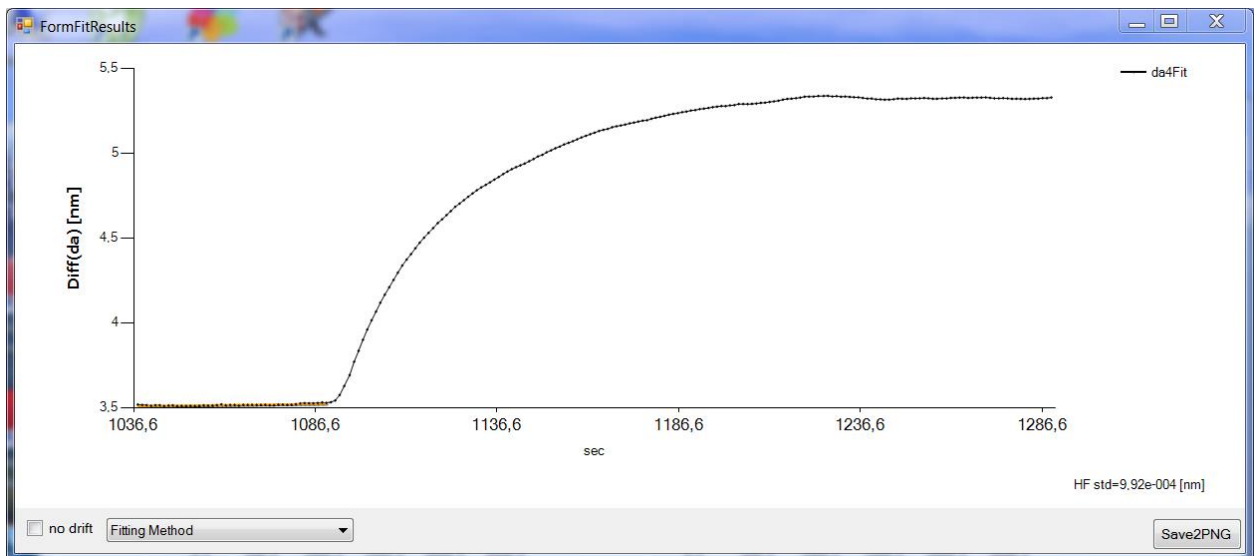
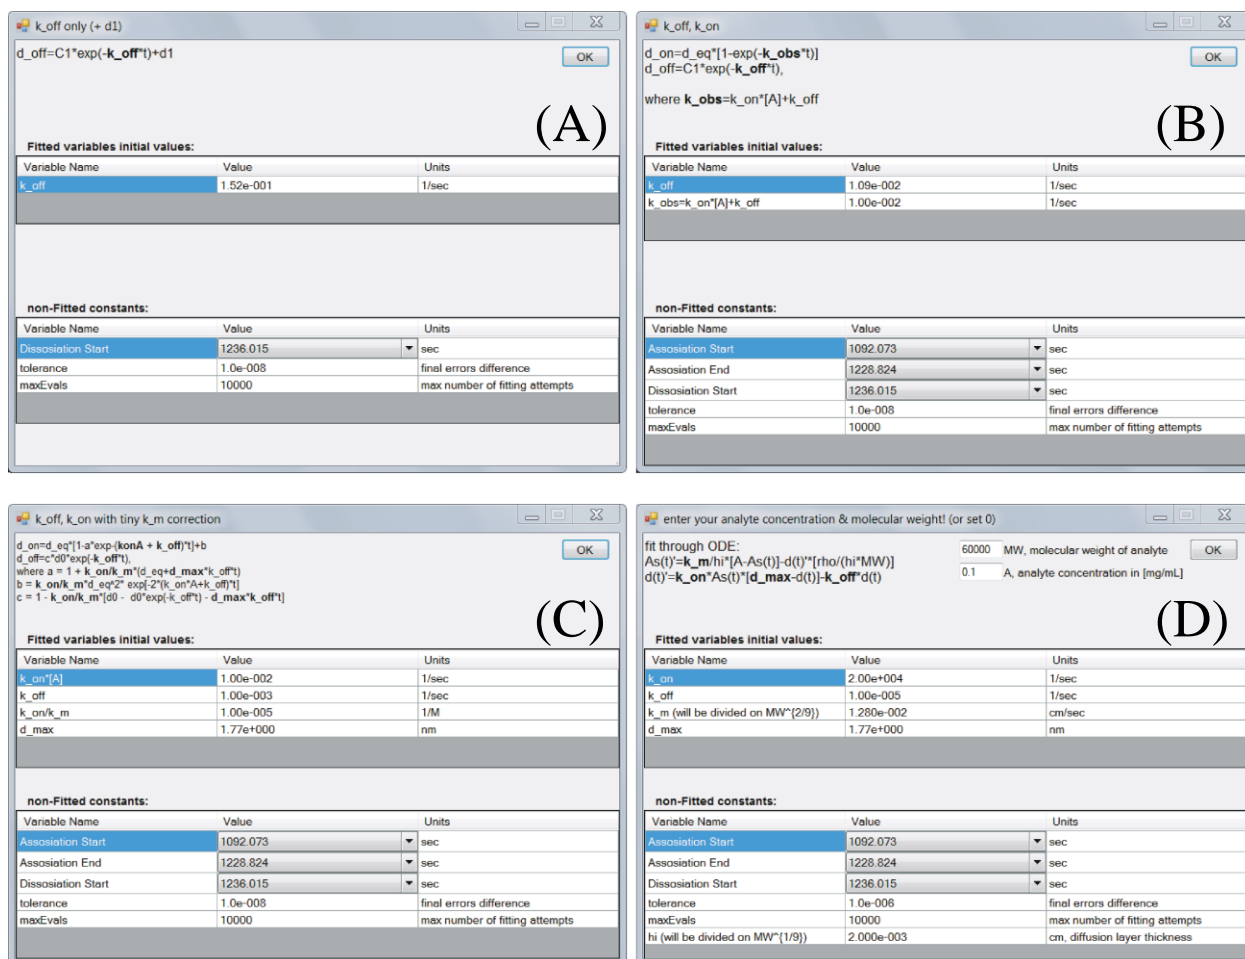
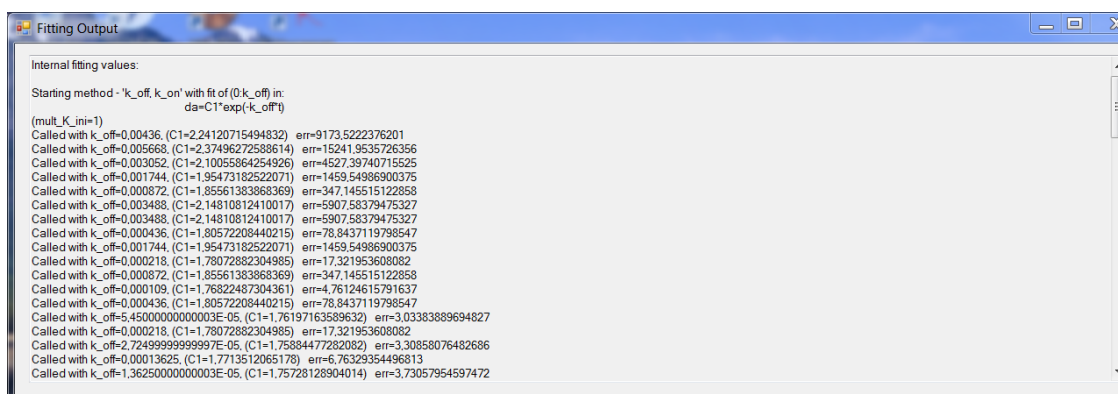
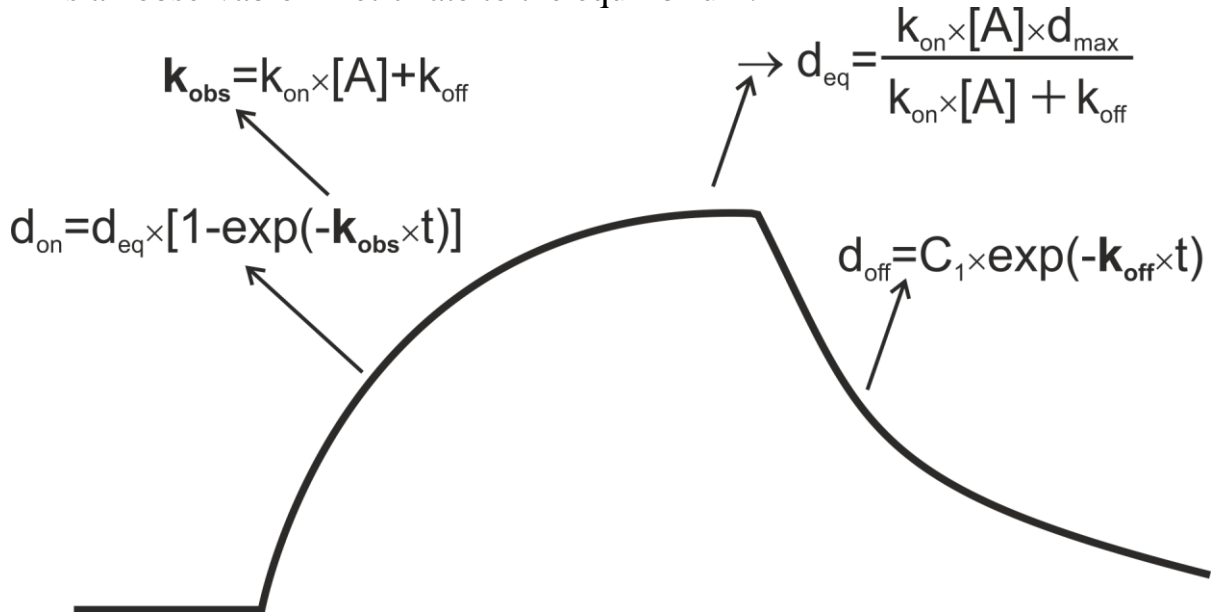

Figure 15. Form for fitting selected part of data.
Figure 16. Methods for data fitting.
Figure 17. Auxiliary window illustrating fitting process.
Figure 18. A schematic kinetic curve showing association and dissociation phases.
The selected portion of data points will be opened in a separate window, ‘FormFitResults’ (see **Figure 15**), where a fitting method may be chosen. There are several fitting methods in the program. All of these are illustrated in **Figure 16**. The internal details of the fitting process may be found in the ‘FittingOutput’ window, presented in **Figure 17**.
Several kinetic models for data fit may be chosen in the 'FormFitResults' window (Figure 15). In Figure 16, one can see available models (A-D) for fit. The main model is a Langmuir model (with and without drift – (B) in Figure 16). In this model (schematically illustrated in Figure 18):
Additionally, one can fit the dissociation phase only with the assumption that some adlayer thickness d_1 persists at the exponential dissociation end (model (A) in **Figure 16**):
Two remaining models take into account effects of *mass transport limitation*. Model (D) in **Figure 16** fit experimental data using a system of two *ordinary differential equations* (ODE)
The model (C) in **Figure 16** fit experimental data with the assumption that the *mass transport limitation* is weak and may be taken into account as a small perturbation in a standard Langmuir 1:1 model – with (k_{on}/k_m) as a small parameter: